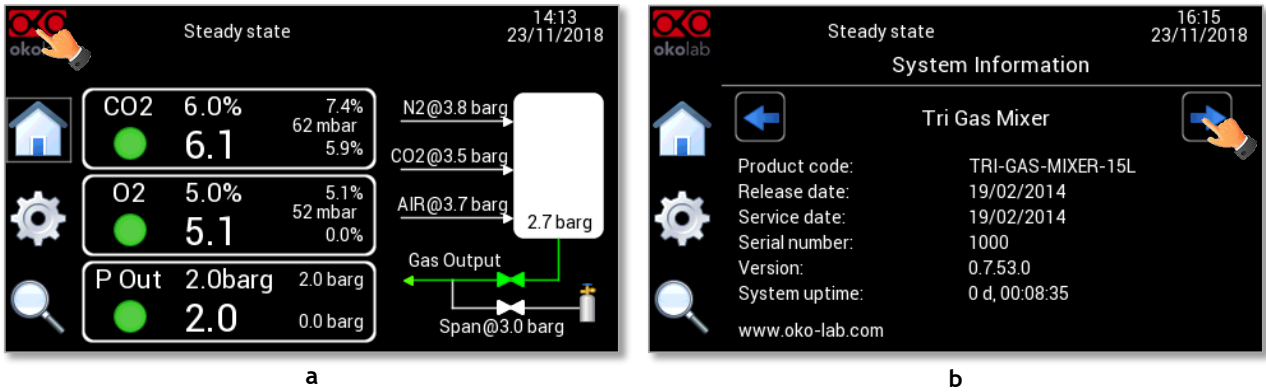

Figure 140 How to open the System Information page
11. To verify the correct installation of the Mass Flow Controller, press the icon Okolab  to access to *System Information* pages (see Figure 140 a). Click the right arrow icon to move to Mass Flow Controller information panel (see Figure 140 b)